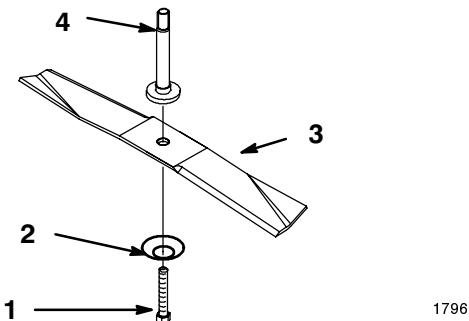

Figure 38
1. Install the blade, Belleville washer, and the blade bolt (Fig. 38).